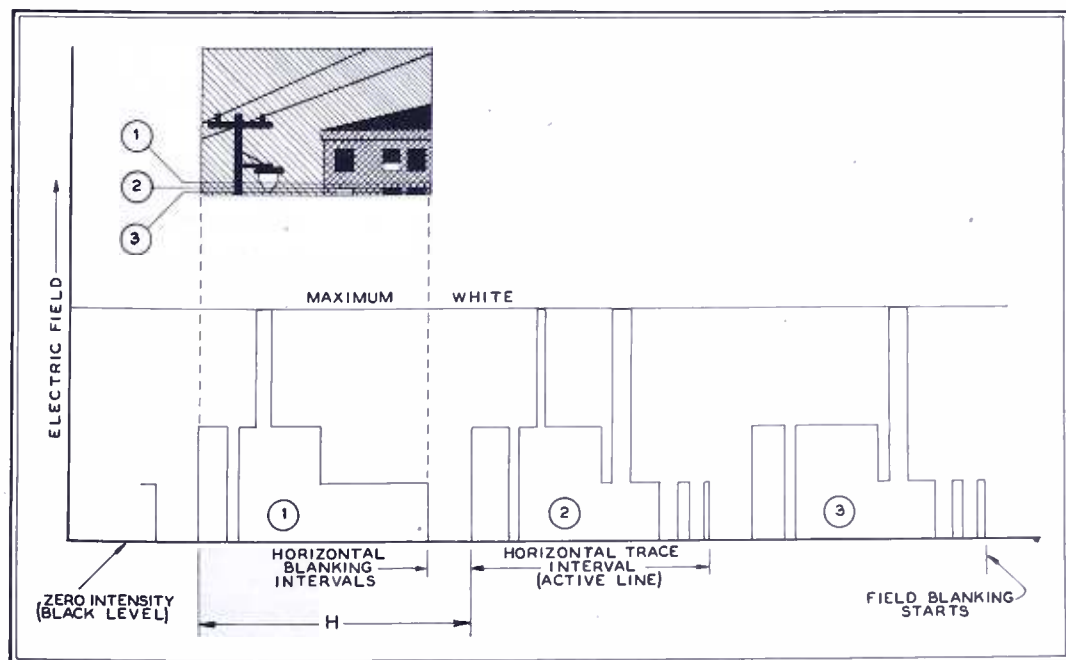

FIG. 29. WAVEFORM OF ENERGY REPRESENTING THREE PICTURE LINES AT 1, 2, AND 3
1. Video Information ★ Video information is transmitted by means of a complex waveform of energy. This energy may be either radiated, electromagnetic energy in space or electric energy in a conductor. In either case, the intensity of the electric field which is being transmitted by radio broadcast or by wire will have a form substantially as shown in Fig. 29. Fig. 29 is the graph of a video wave, already shown for a brief interval as the portion of Fig. 1, labeled V.
The waveform of Fig. 29 shows the change in the electric field being transmitted during the last several lines of one of the even-numbered fields of an RMA standard television picture, near the start of the field pedestal which occurs at the bottom of the picture. Each interval labeled H represents one complete line of the picture. The rectangular pedestals immediately preceding and following each line of information are the blanking pulses which establish black level. The amplitude of these pulses is shown as zero during the pedestal interval. Zero level in the video wave corresponds to complete blackness on the cathode-ray tube screen. During this blanking interval, the cathode-ray tube grid is of such potential as to just cut off the beam current so that there is no light on the screen. Immediately following the blanking period, the electric field depends upon what the illumination in any particular line of the picture happens to be. In Fig. 29 this illumination is shown as half-white, or half the maximum illumination which occurs along the line. The example chosen is for three lines as shown in the small insert picture in Fig. 29.